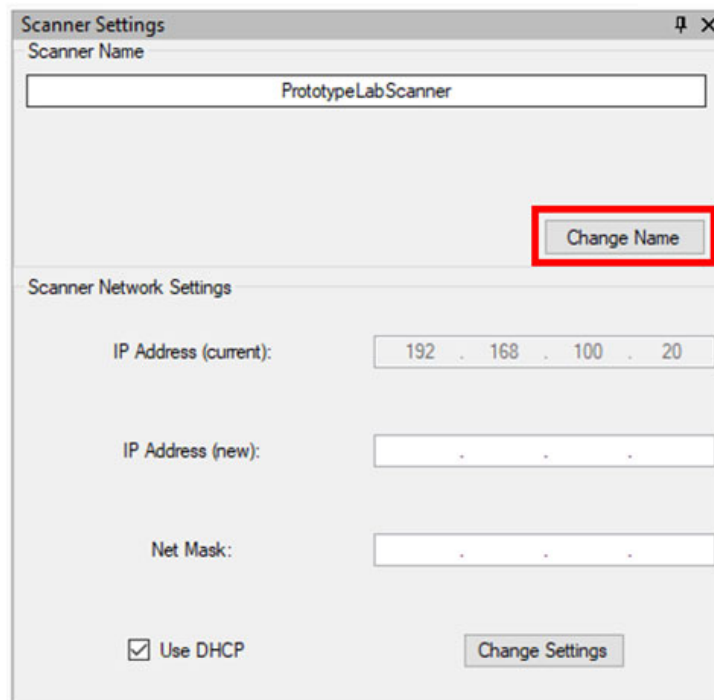

Figure 392: Changing the Scanner Name
3. Click "Change Name" and allow the scanner sufficient time to complete the process. See Figure 392 (below).